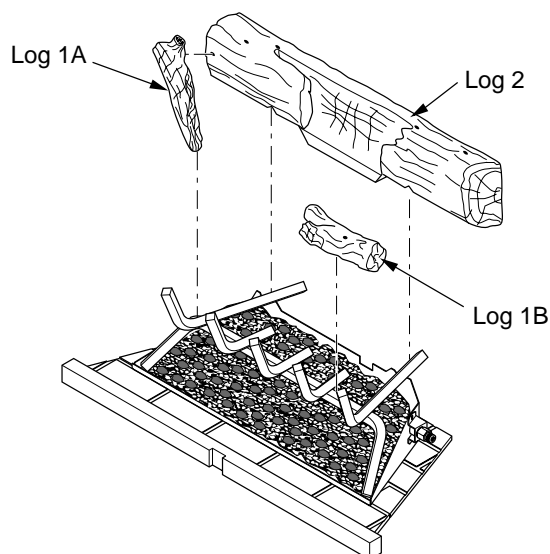

Figure 27 - Installing Logs 1A, 1B and 2
1. Place log 1A on the front left side of grate. Place log 1B on the front right side of the grate. See Figure 27.
2. Place large back log (log 2) onto grate making sure notches rest over grate. Insert peg on back of log 1A into hole on front left of log 2 (see Figure 27).